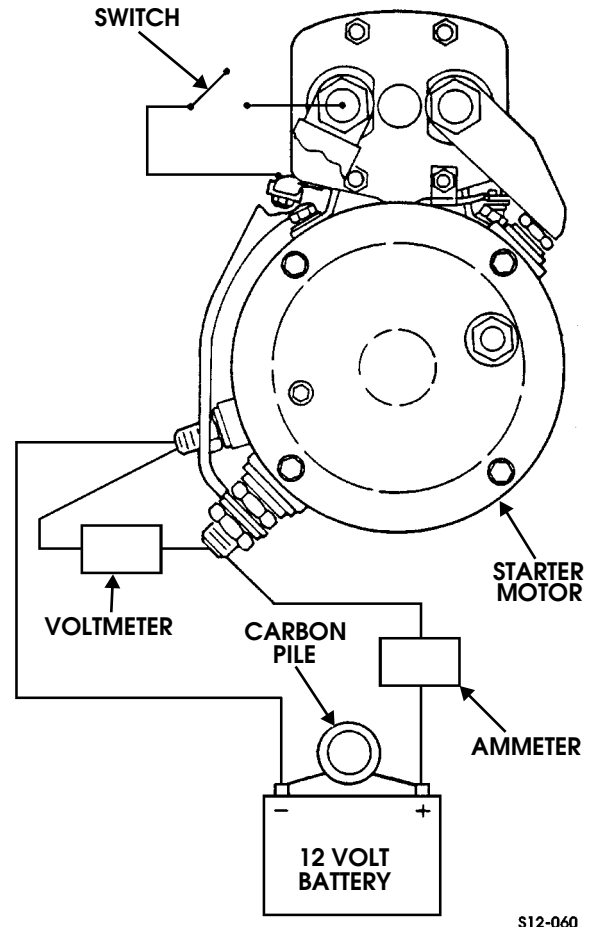

Figure 12-33: Starter Test Connections
1. Connect voltmeter, ammeter, switch and battery to starter as shown (Figure 12-33).